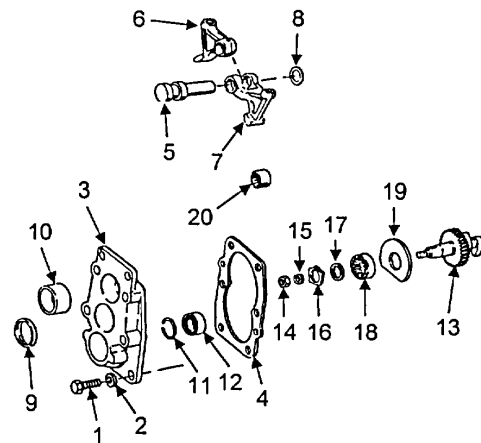

FIGURE 5-48. TIMING COVER CAMSHAFT ASSEMBLY
- a. Remove six screws (Figure 5-48, Item 1) and washers (2) and remove timing cover (3) and camshaft (13).
- c. Remove and discard gasket (4).
- e. Remove spindle (5), cam followers (6 and 7) and shim (8) from crankcase using cam follower spindle extractor 66632400.
- c. If needle bearing (20) is damaged, remove using camshaft needle bearing punch 666 425 00.
- d. Replace new needle bearing (20) using camshaft needle bearing mounting device 666 418 00.
- a. Assemble spacer (Figure 5-48, Item 19), roller bearing (18), flanged wheel (17), retaining ring (16), spring washer (15), and hex nut (14) onto camshaft (13).
- b. Using an oven, heat timing cover (3) to 120°F to 160°F (500°C to 700°C). Drive in new ball bearing (12) and install new intermediate ring (11).
- c. While timing cover is still hot, drive in camshaft (13).
- d. Drive in new bushing (10).
- e. Install new oil seal (9).
- a. Install timing cover (3).